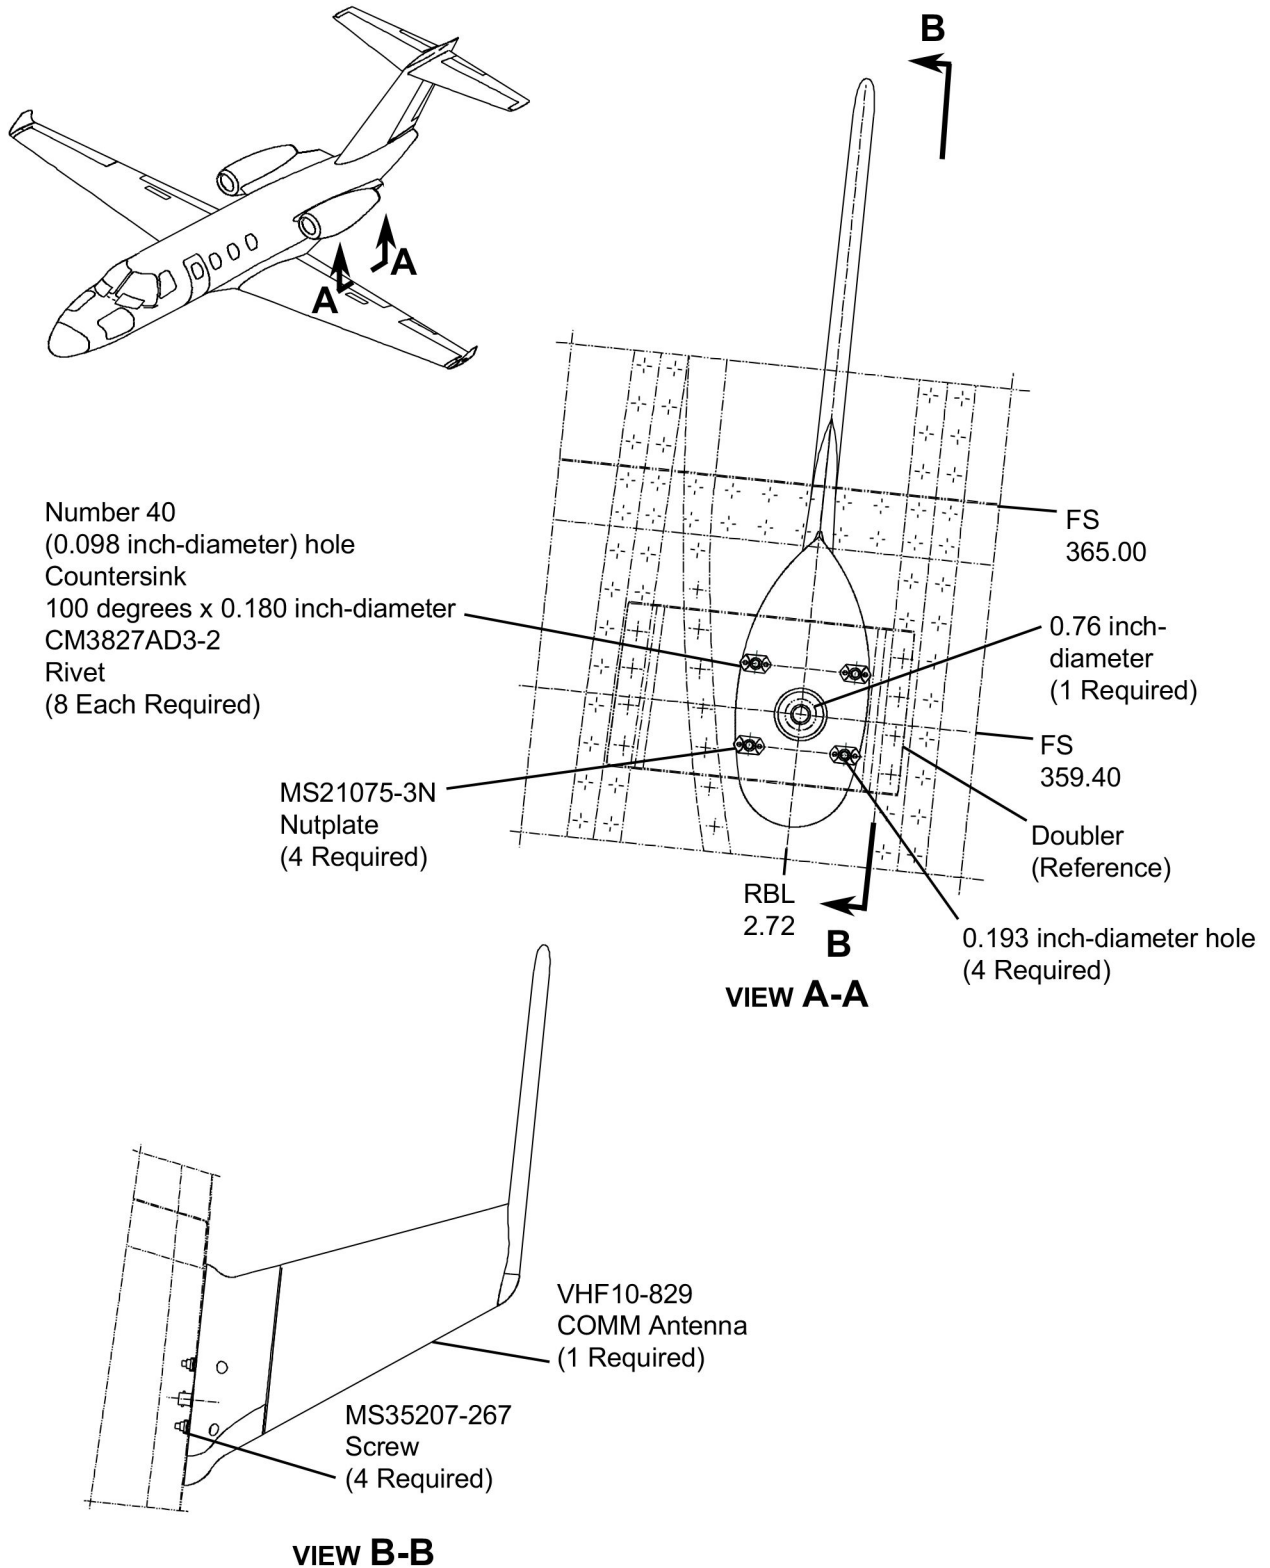

Figure 1. VHF 10-829 COMM Antenna (Sheet 1)
- (3) Drill four 0.193 inch-diameter holes through the fairing panel and doubler to match the holes in the antenna.
- (4) Remove the antenna from the fairing panel.
- (5) Put each nutplate over the 0.193 inch-diameter holes that were drilled.
- (6) Drill two Number 40 (0.098 inch-diameter) holes through the fairing panel and doubler to match the holes in the nutplates.
- (7) Countersink the Number 40 holes 100 degrees x 0.180 inch-diameter.
- (8) Remove the nutplates from the doubler.
- (9) Deburr the holes that were drilled.
- (10) Apply U074093 (Alodine 1132) color chemical film treatment to the holes that were drilled. (Refer to the Model 525 Structural Repair Manual, Chapter 51, Protective Treatment Of Metal.)
- (11) Apply corrosion resistant primer to all of the holes that were drilled. (Refer to the Model 525 Structural Repair Manual, Chapter 51, Protective Treatment Of Metal.)
- (12) Install the four MS21075-3N Nutplates on the doubler with eight CM3827AD3-2 Rivets.
- D. (Refer to Figure 1, View B-B.) Install the new VHF10-829 COMM Antenna.
- (1) Put the VHF10-829 COMM Antenna on the fairing.
- (2) Attach the antenna to the fairing with four MS27039-1-08 Screws.
- (3) Connect the PT1059 coaxial cable to the antenna.
- (4) Make sure there is a Type V electrical bond between the antenna and the fairing panel. (Refer to the Citation Standard Practices Manual, Chapter 20, Electrical Bonding and Grounding - Maintenance Practices.)
- (5) Fillet seal around the entire base of the antenna, adapter and coaxial connectors with U470637 (Type I, Class B-1/2) . (Refer to the Citation Standard Practices Manual, Chapter 20, Fuel, Weather, Pressure and High Temperature Sealing - Maintenance Practices.)
- (6) Brush coat seal the nutplates using U470642 Sealant (Refer to the Citation Standard Practices Maintenance Manual, Chapter 20, Fuel Weather Pressure and High Temperature Sealing - Maintenance Manual.).